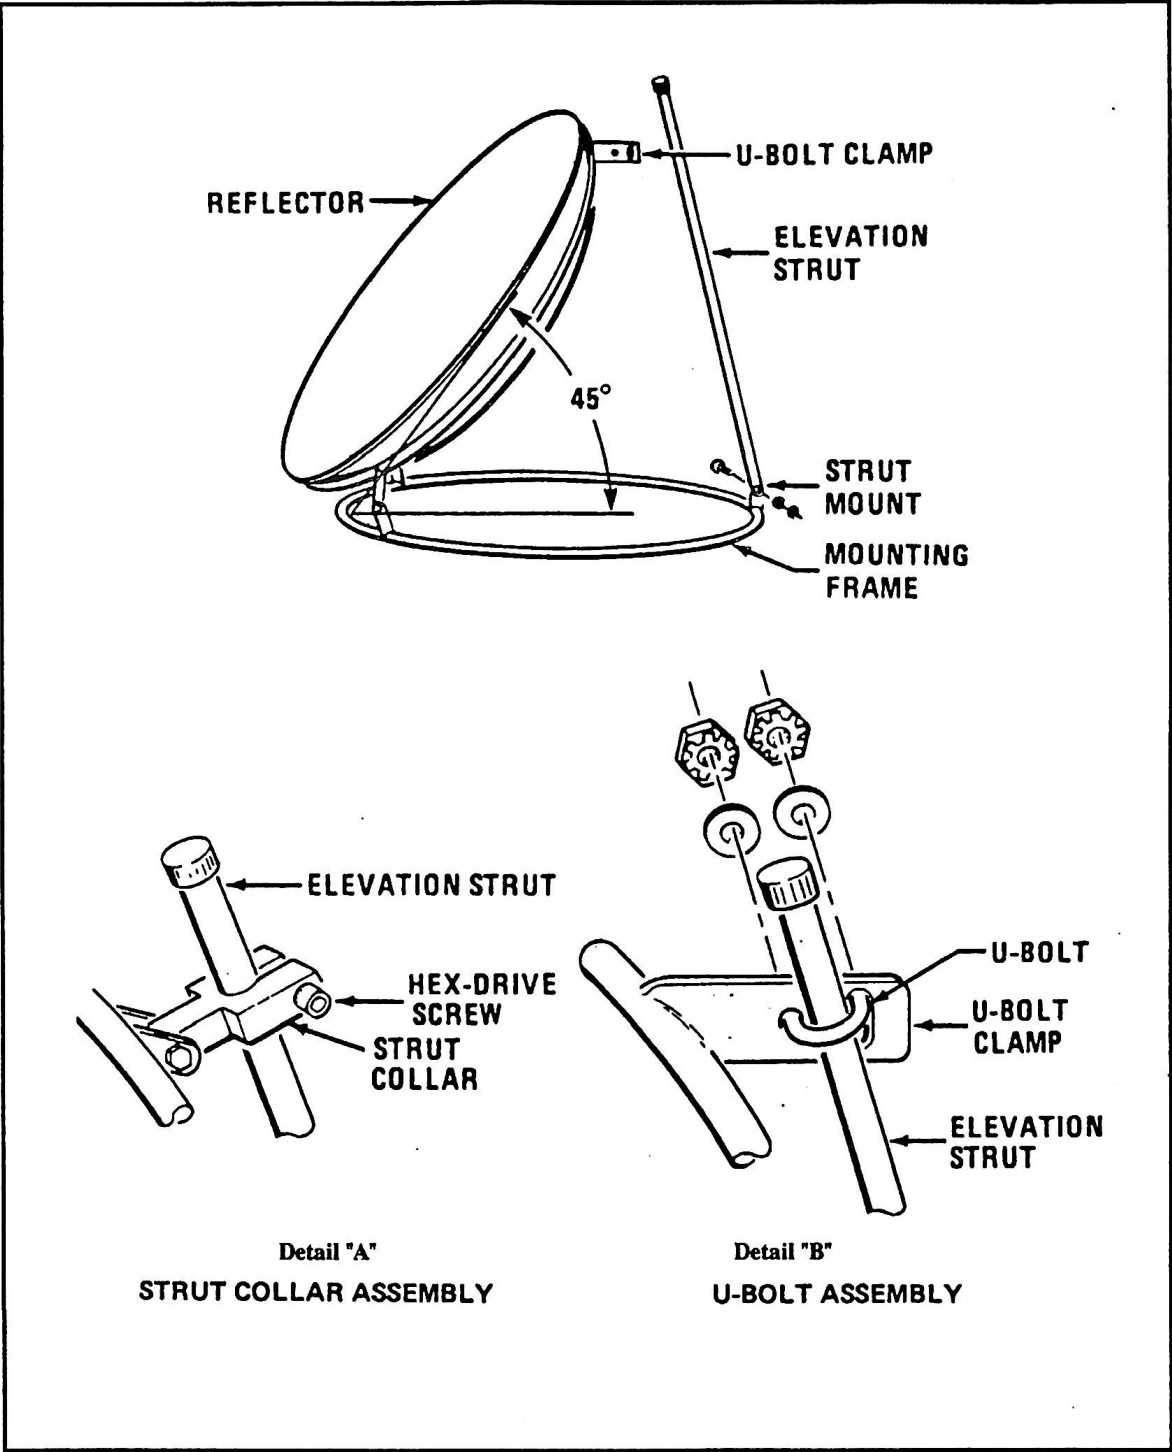

Figure 4-1. Antenna Reflector/Strut Assembly
The antenna and strut are assembled so that the reflector is tilted at an angle of approximately 45 degrees when the entire assembly is positioned on a flat surface. The assembly procedure follows (Refer to Figure 4-1 for details):
2. Loosen the hex-drive cap screw on the strut collar but do not remove. Remove the bolt-washer-nut assembly from the strut mount and set aside. (See Figure 4-1, Detail "A".)
In some models, the strut collar is replaced by a U-bolt. For these units, slide the strut through the U-bolt collar and tighten the U-bolt nuts. Refer to Detail "B" in Figure 4-1.